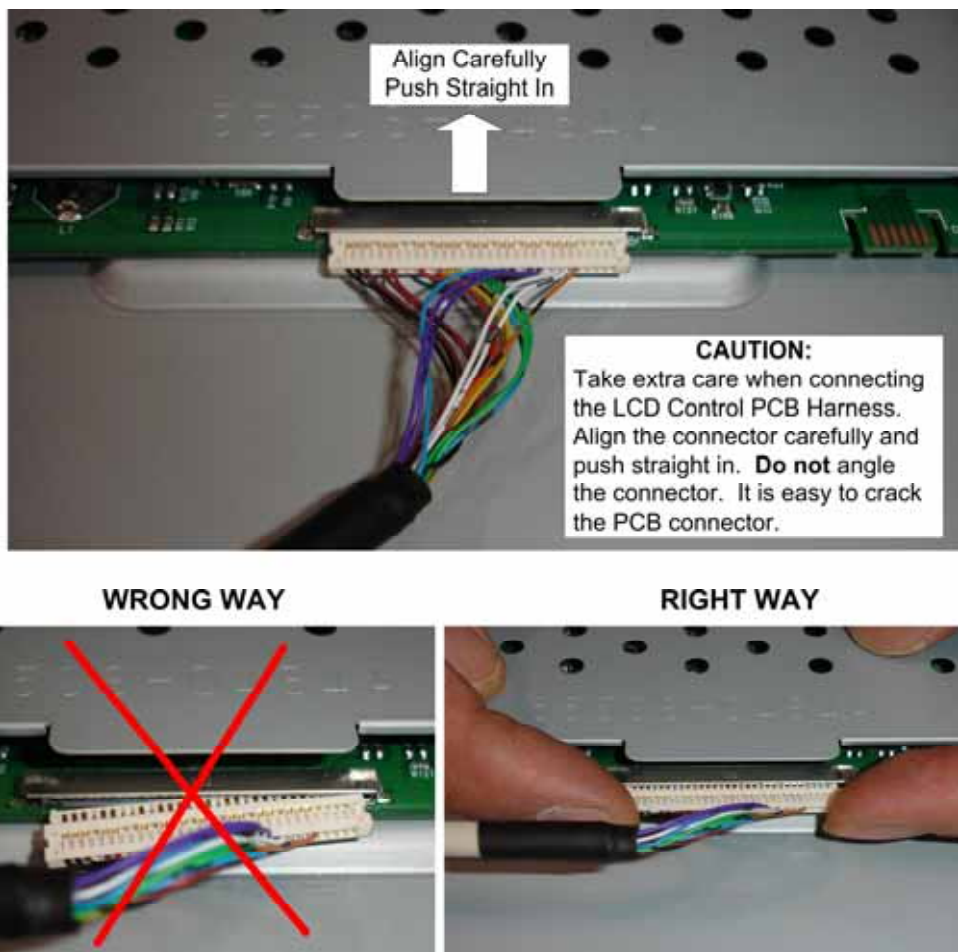

Figure 20. Connecting the LCD Control PCB Harness
14. Reverse these steps to install the new LCD monitor. Read the caution below and refer to Figure 20 to avoid breaking the LCD Control PCB connector.
**CAUTION:** It is very **EASY TO BREAK** the plastic housing around the connector on the LCD Control PCB. Align the connector carefully, and gently push straight in with your thumbs on both sides. **DO NOT FORCE.** Pressing too hard can break the plastic. See Figure 20 for the correct way to connect the harness.
4. Remove the four (4) screws that secure the PCB to the monitor backbox and remove the PCB.
5. Reverse these steps to install the new PCB. Read the caution below and refer to Figure 20 to avoid breaking the LCD Control PCB connector.
5. Remove the four (4) bolts that secure the monitor L-brackets to the cabinet and carefully lay the monitor down above the control panel so you can access the power supply terminals.
Perform the steps under *Monitor Replacement (Standard)*, above, but remove and replace only the LCD Control PCB from the monitor assembly in step 8. Be sure to see Figure 20 on page 30 for the correct way to connect the Control PCB Harness to avoid breaking the connector.